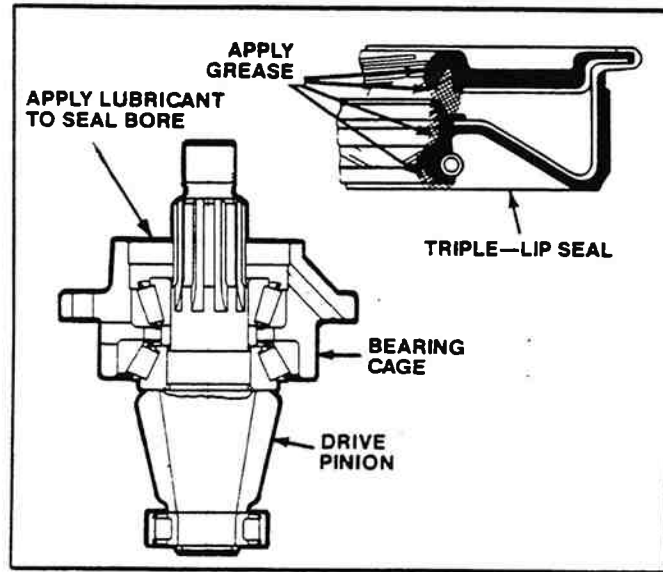

Figure 2-52. Installing Seal Into Bore.
- Apply axle lubricant to seal bore in bearing cage (Figure 2-52).